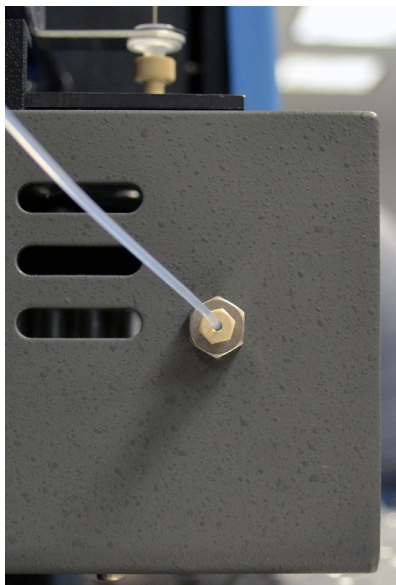

Figure 4-35: Alcott 720NV outlet port.
9. Insert the other end of the transfer line into the outlet port on the left side of the autosampler and tighten finger-tight (Figure 4-35).